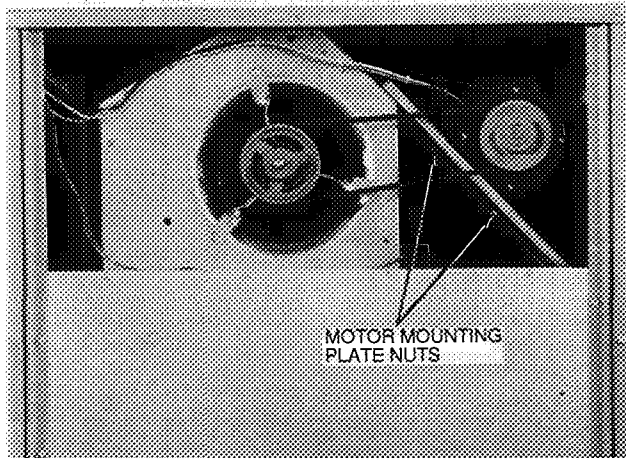

Fig. 27 – Typical Belt-Drive Motor Mounting for Sizes 008,009
2. Loosen belt by loosening fan motor mounting plate nuts (see Fig. 27 and 28).
To adjust belt tension (see Fig. 27 and 28):
2. *Units 008,009* — Slide motor mounting plate away from fan scroll for proper belt tension (1/2-in. deflection with one finger) and tighten mounting nuts (see Fig. 27).